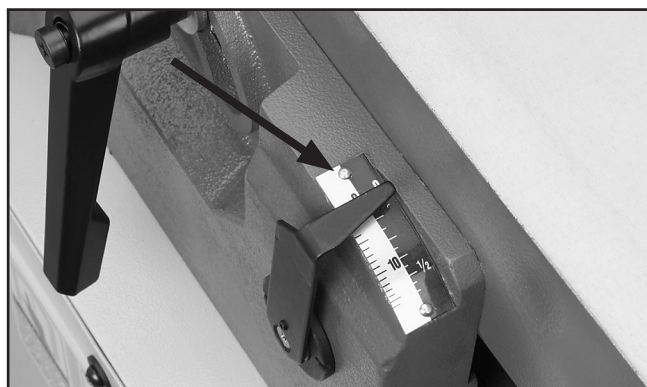

Figure 60. Depth scale adjusted to "0" position.
4. Using a screwdriver, adjust the scale pointer to zero (**Figure 60**), then reset the infeed table positive stops.